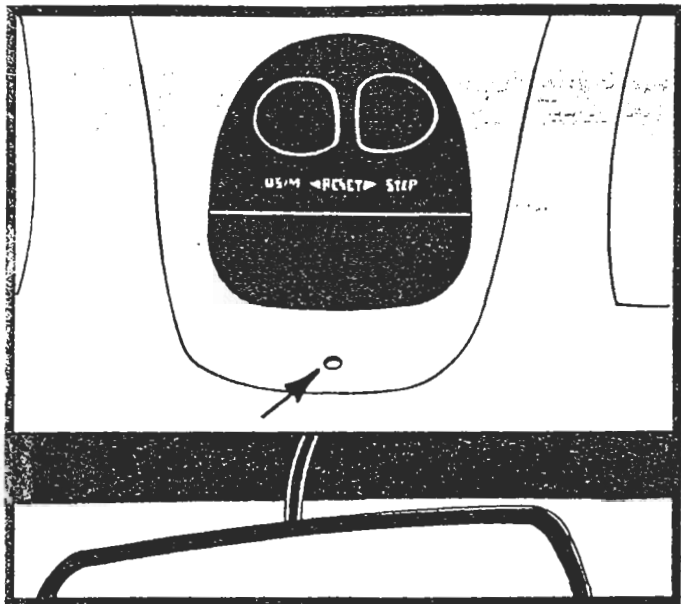

FIGURE 1
2. Remove front mounting screw from overhead console and slide forward to release tabs at rear of console. See figure 1.